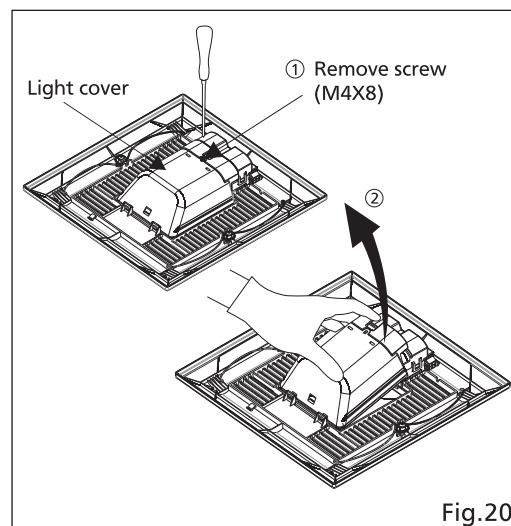

Fig.20
2. Remove the screw as shown in step ① of Fig.20. Remove the light cover as shown in step ② of Fig.20 .